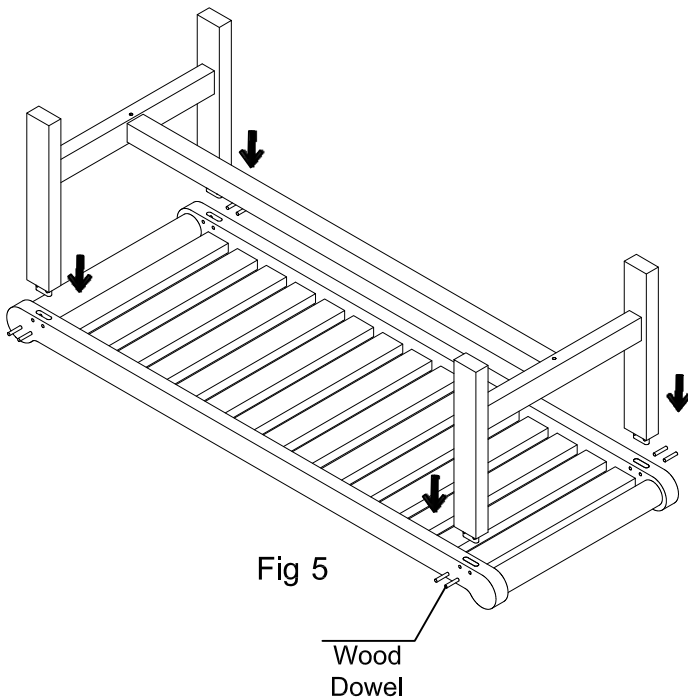

Fig 5
5. Put some glue around mortise of leg, insert into Seat. Put some glue around the wood dowel, insert into apron of seat (Fig. 5)